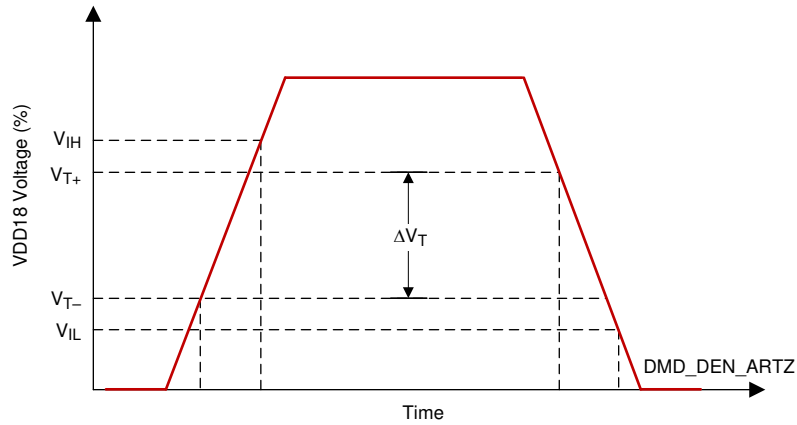

图 6-9. LVC MOS Input Hysteresis
(1) See Figure 6-9 and Figure 6-10 LVC MOS Rise, Fall Time SLeW Rate Figures. Specification is for DMD_DEN_ARSTZ pin (LVC MOS).